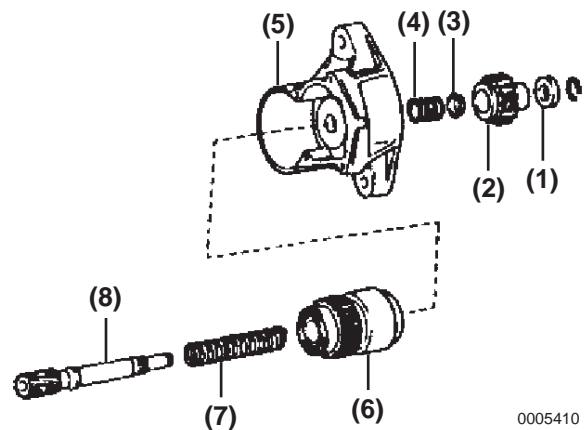

Figure 10-23
3. Remove the stop collar, pinion gear, retainer, spring, starter housing, starter clutch, compression spring and clutch shaft from the starter housing and clutch assembly (**Figure 10-23**).